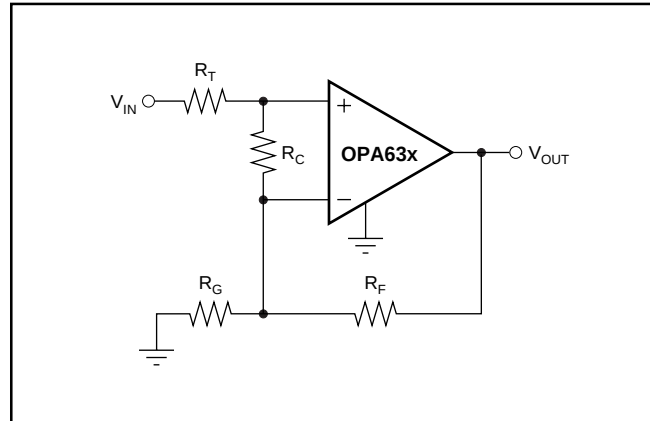

FIGURE 4. Compensated Non-Inverting Amplifier.
Figure 4 shows a non-inverting amplifier that reduces peaking at low gains. The resistor R_C compensates the OPA634 or OPA635 to have higher Noise Gain (NG), which reduces the AC response peaking (typically $5dB$ at $G = +1$ without R_C) without changing the DC gain. V_{IN} needs to be a low impedance source, such as an op amp. The resistor values are low to reduce noise. Using both R_T and R_F helps minimize the impact of parasitic impedances.
Since the OPA634 and OPA635 are voltage feedback op amps, a wide range of resistor values may be used for the feedback and gain setting resistors. The primary limits on these values are set by dynamic range (noise and distortion) and parasitic capacitance considerations. For a non-inverting unity gain follower application, the feedback connection should be made with a 20Ω resistor, not a direct short (see Figure 4 with $R_G = \infty$). This will isolate the inverting input capacitance from the output pin and improve the frequency response flatness. Usually, for $G > 1$ application, the feedback resistor value should be between 200Ω and $1.5k\Omega$. Below 200Ω , the feedback network will present additional output loading which can degrade the harmonic distortion performance. Above $1.5k\Omega$, the typical parasitic capacitance (approximately $0.2pF$) across the feedback resistor may cause unintentional band-limiting in the amplifier response.